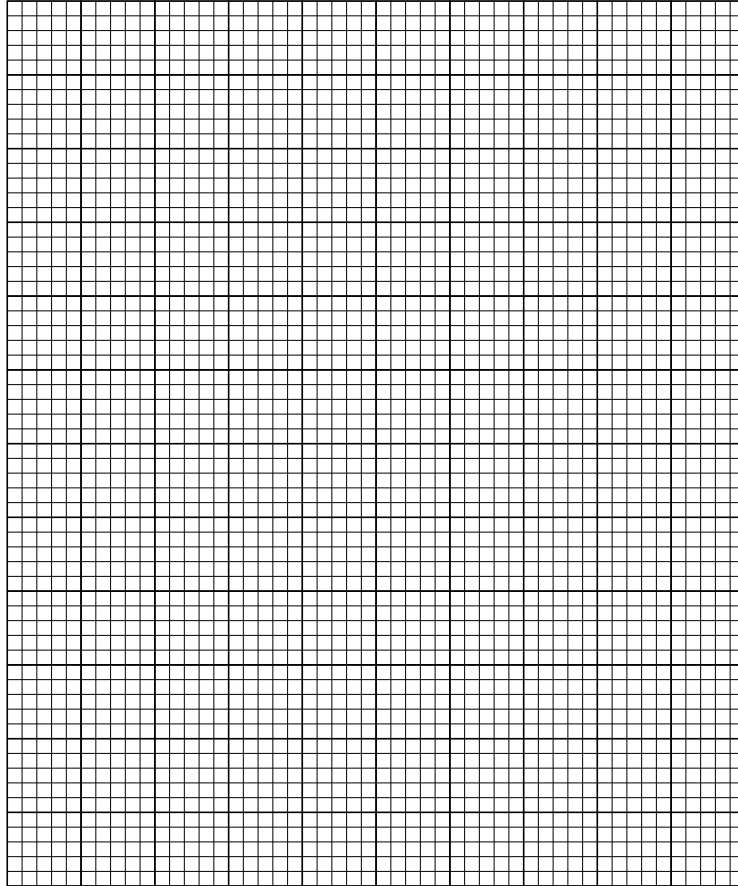

Figure 6.7: Voltage vs. Frequency
Adjust the drive frequency in 10 Hz steps from 0 to 100 Hz. For each step graph the results on the grid provided in Figure 6.7.
11. Adjust the drive frequency in 10 Hz steps from 0 to 100 Hz. For each step record the drive voltage, and graph the results on the grid provided in Figure 6.7.